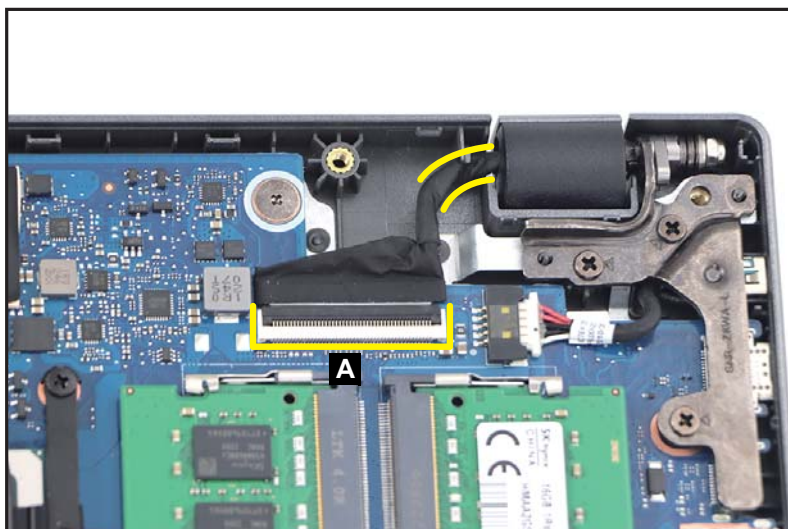

Figure 1-18. LCD Module Removal
1. Disconnect the LVDS cable from the mainboard connector (A). Then unrout the cable from the cable guides as shown in Figure 1-18.